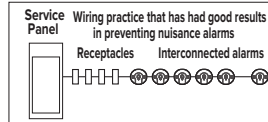

Figure 8-B
- For best results to minimize nuisance alarms, interconnected alarms should be on a dedicated line. If not on a dedicated line, it is suggested that the smoke alarms share a lighting load circuit that does not have a dimmer associated with it. If receptacles must be placed on the same line it is suggested that they be placed ahead of the smoke alarms (see Figure 8-B). This will prevent large voltage drops from occurring between the first and last alarm in the circuit.